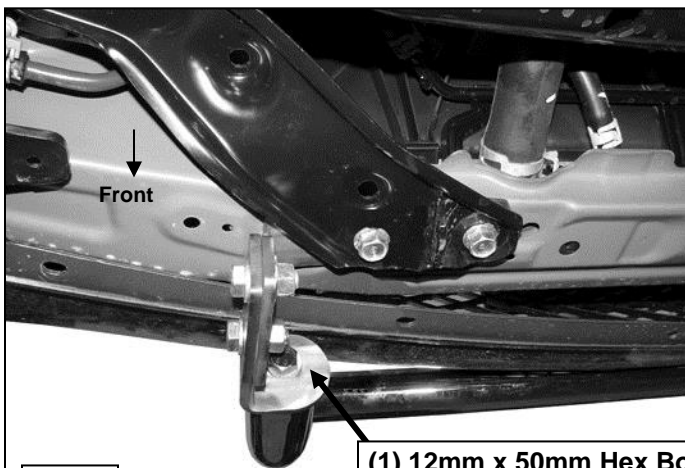

Fig 5
5. Place the City Bar face down on a clean surface in front of the vehicle. **NOTE:** Use the packing materials to protect the finish on the City Bar. With assistance, carefully position the City Bar up to the Mounting Brackets. Attach the City Bar to the Mounting Brackets with the included (2) 12mm x 50mm Hex Bolts, (2) 12mm Lock Washers, (2) 12mm Flat Washers, **(Figure 5)**. Snug but do not tighten hardware at this time.